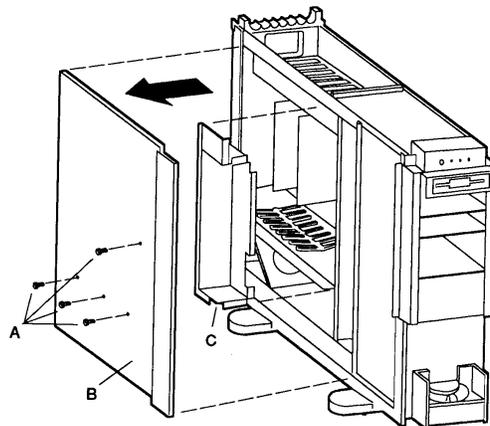

Figure A-7. 6386E/33 WGS Access Cover Removal
6. Refer to Figure A-7. Remove the four retaining screws (A) from the card cage cover.
7. Slide the card cage cover (B) forward and then away from the chassis.
8. If you are installing additional memory on the main board, disconnect all cables that cover the air deflector (C). Then remove the air deflector by lifting it outward to release it from the chassis.